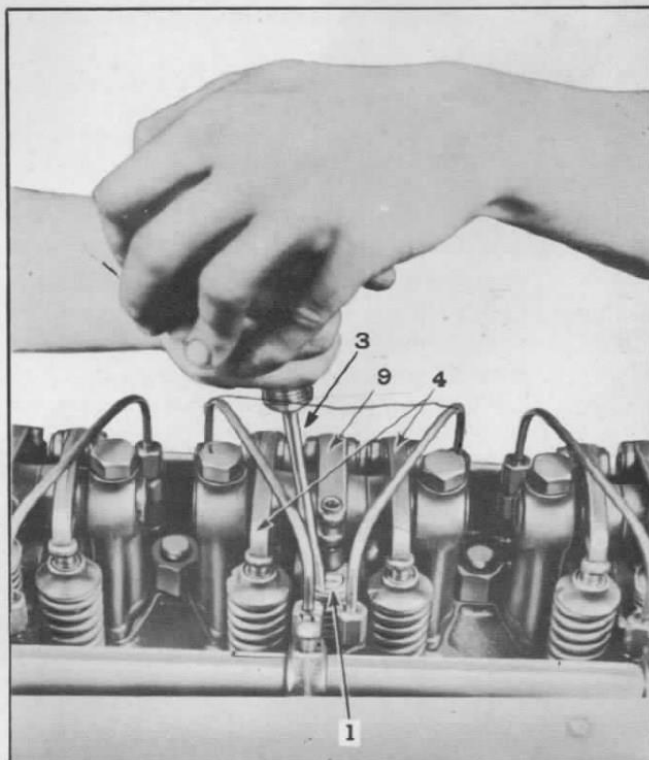

Fig. 28—Depressing Injector Follower with Screwdriver
4. Hold injector plunger of No. 1 cylinder down with a screwdriver as shown in Fig. 28, thus putting the injector out of operation. At the same time, note the tachometer for any difference in engine speed. If the cylinder is misfiring or the injector is not functioning properly, there will be no change in speed when the injector is put out of action. If the injector has been functioning properly, there will be a decrease in engine speed. Cutting out the cylinder in the manner described is similar to short-circuiting a spark plug on a gasoline engine.